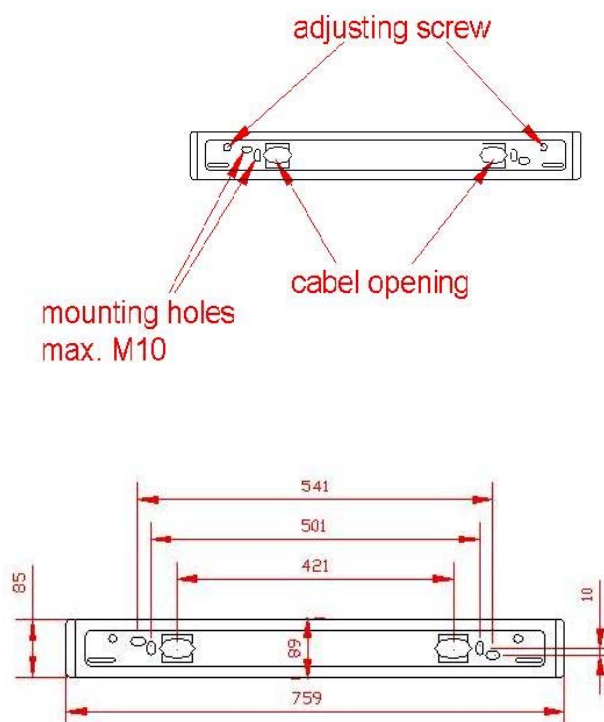

Fig. 4: Floor plate dimensions ①
If the position of the antennas has been marked or determined, the antenna foot ①, which is to be used as a hole template, can be used to mark and drill the mounting holes and the holes for the cable entry. The dimensions are shown in Fig. 4:
Two cable openings are provided for the necessary connection cable (see Fig. 4). The cable openings are dimensioned such that up to 10 cables having a diameter of 6 mm can be passed through each opening.